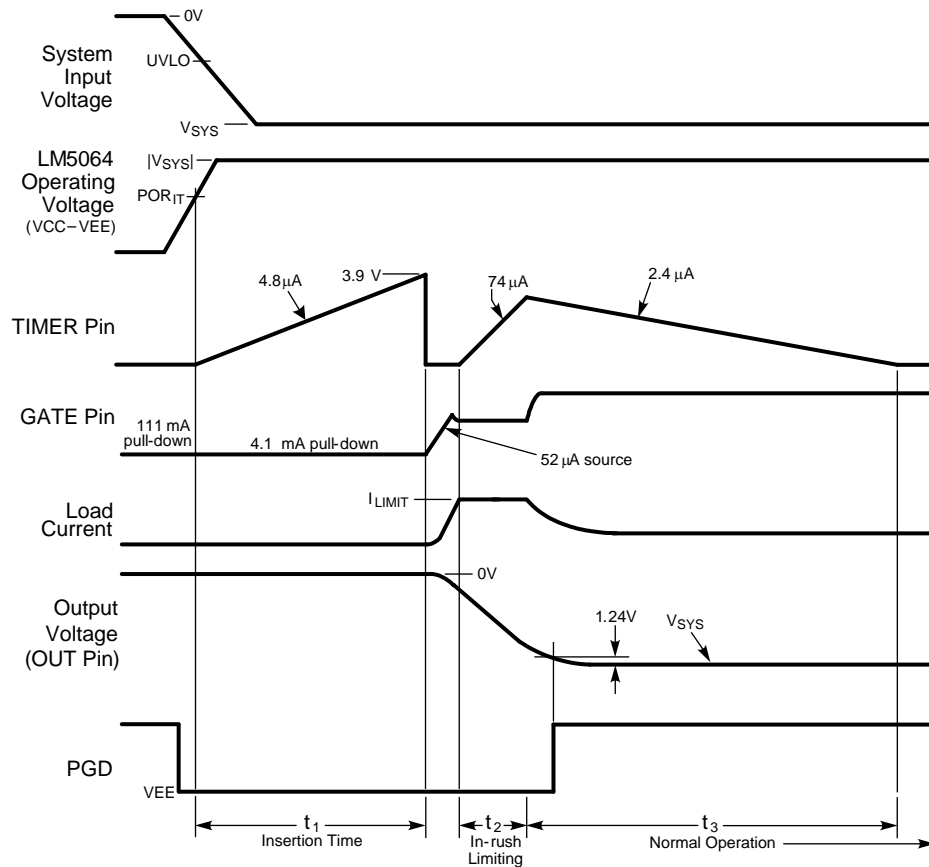

Figure 2. Power Up Sequence
Referring to Figure 2, as the system voltage (V_{SYS}) initially increases, the external N-channel MOSFET (Q_1) is held off by an internal 111 mA pull-down current at the GATE pin. The strong pull-down current at the GATE pin prevents an inadvertent turn on as the MOSFET’s gate-to-drain (Miller) capacitance is charged. Additionally, the **TIMER** pin is initially held at VEE. When the operating voltage of the LM5064 (VCC - VEE) reaches the POR_{IT} threshold, the insertion time begins. During the insertion time, the capacitor at the **TIMER** pin (C_T) is charged by a 4.8 μA current source, and Q_1 is held off by a 4.1 mA pull-down current at the GATE pin regardless of the input voltage. The insertion time delay allows ringing and transients on V_{SYS} to settle before Q_1 is enabled. The insertion time ends when the **TIMER** pin voltage reaches 3.9V. C_T is then quickly discharged by an internal 1.5 mA pull-down current. The GATE pin then switches on Q_1 when the operating voltage exceeds the UVLO threshold. If the operating voltage is above the UVLO threshold at the end of the insertion time, (t_1 in Figure 2) the GATE pin sources 52 μA to charge the gate capacitance of Q_1 . The maximum voltage on GATE is limited by an internal 12.6V zener diode to VEE.
As the voltage at the OUT pin transitions to V_{SYS} , the LM5064 monitors the drain current and power dissipation of MOSFET Q_1 . In-rush current limiting and/or power limiting circuits actively control the current delivered to the load. During the in-rush limiting interval (t_2 in Figure 2), an internal 74 μA fault timer current source charges C_T . If Q_1 ’s power dissipation and the input current reduce below their respective limiting thresholds before the **TIMER** pin reaches 3.9V, the 74 μA current source is switched off, and C_T is discharged by the internal 2.4 μA current sink (t_3 in Figure 2). The in-rush limiting will no longer engage unless a current-limit condition occurs.
A current source provides the charge at the GATE pin to enhance the N-Channel MOSFET's gate (Q_1). During normal operating conditions (t_3 in Figure 2) the gate of Q_1 is held charged by an internal $52\ \mu\text{A}$ current source. The GATE pin peak voltage is roughly 12.6V , which will force a V_{GS} across Q_1 of 12.6V under normal operation. When the system voltage is initially applied, the GATE pin is held low by a $111\ \text{mA}$ pull-down current. This helps prevent an inadvertent turn on of Q_1 through its drain-gate capacitance as the applied system voltage increases.
During the insertion time (t_1 in Figure 2), the GATE pin is held low by a $4.1\ \text{mA}$ pull-down current. This maintains Q_1 in the off-state until the end of t_1 , regardless of the voltage on V_{SYS} or $UVLO/EN$. Following the insertion time, during t_2 in Figure 2, the gate voltage of Q_1 is modulated to keep the current or power dissipation level from exceeding the programmed levels. While in the current or power limiting mode, the TIMER pin capacitor is charging. If the current and power limiting cease before the TIMER pin reaches 3.9V , the TIMER pin capacitor then discharges, and the circuit begins normal operation. If the in-rush limiting condition persists such that the TIMER pin reached 3.9V during t_2 , the GATE pin is then pulled low by the $4.1\ \text{mA}$ pull-down current. The GATE pin is then held low until either a power up sequence is initiated (RETRY pin to VDD), an automatic retry is attempted (RETRY pin to VEE or floating), or a PMBus ON/OFF command is initiated. See the Fault Timer & Restart section. If the operating voltage falls below the $UVLO$ threshold, or rises above the $OVLO$ threshold, the GATE pin is pulled low by the $4.1\ \text{mA}$ pull-down current to switch off Q_1 .
When the current limit or power limit threshold is reached during turn-on, or as a result of a fault condition, the gate-to-source voltage of Q_1 is modulated to regulate the load current and power dissipation in Q_1 . When either limiting function is active, a 74 μ A fault timer current source charges the external capacitor (C_T) at the TIMER pin as shown in Figure 2 (Fault Timeout Period). If the fault condition subsides during the Fault Timeout Period before the TIMER pin reaches 3.9V, the LM5064 returns to the normal operating mode and C_T is discharged by the 1.5 mA current sink. If the TIMER pin reaches 3.9V during the Fault Timeout Period, Q_1 is switched off by a 4.1 mA pull-down current at the GATE pin. The subsequent restart procedure then depends on the selected retry configuration.
A) Insertion Delay -Upon applying the system voltage (V_{SYS}) to the circuit, the external MOSFET (Q₁) is held off during the insertion time (t_i in Figure 2) to allow ringing and transients at V_{SYS} to settle. Since each backplane's response to a circuit card plug-in is unique, the worst case settling time must be determined for each application. The insertion time starts when V_{SYS} reaches the POR threshold, at which time the internal 4.8 μA current source charges C_T from 0V to 3.9V. The required capacitor value is calculated from: